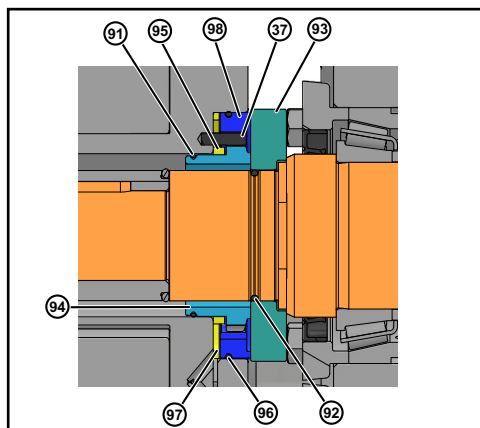

Figure 75 - Double Mechanical Seal
7. If a double mechanical seal is used, install the outer wave spring (Figure 75, item 97) in the body and the outer O-ring (item 96) in the outer seal groove (item 98). Place the outer seal in the pump body around the inner seal, aligning the notches in the outer seal with the stop pins in the body.